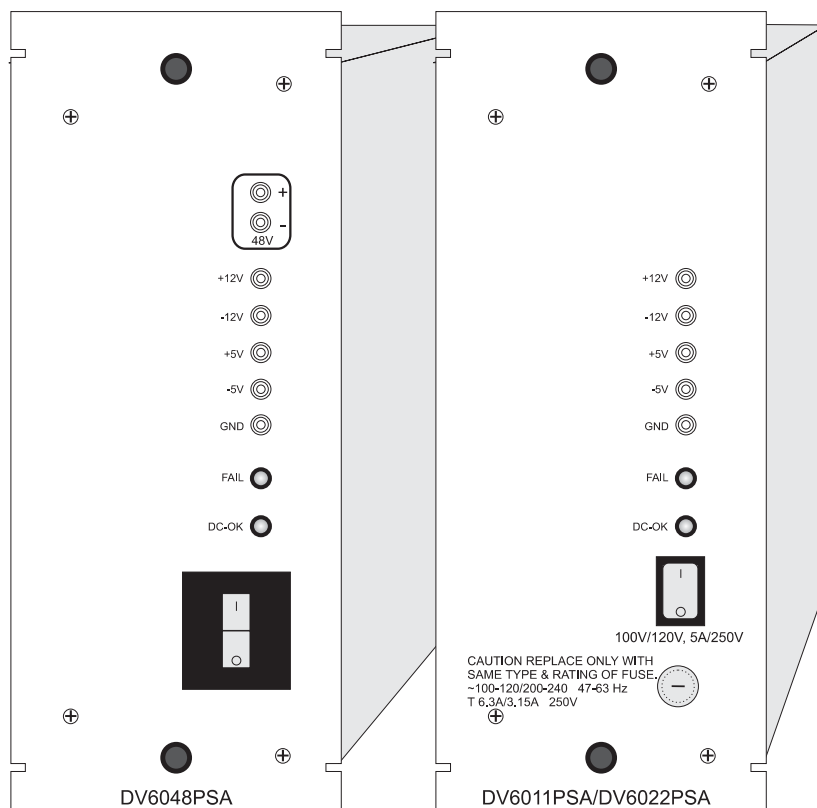

Figure 509-1. DV6000 A Series Power Supplies
6. Plug the voltmeter's negative lead into the power supply ground (GND) test point. Use the positive lead to make contact with each of the output-voltage test points in turn. See **Figure 509-1**. Compare the measured value with the limits (**Table 509-1**).